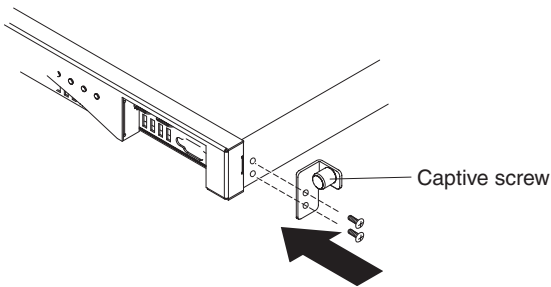

Figure 7. The bracket attaching to the chassis
3. Attach the brackets with the captive screws, as shown in Figure 7. Attach the right bracket to the chassis: